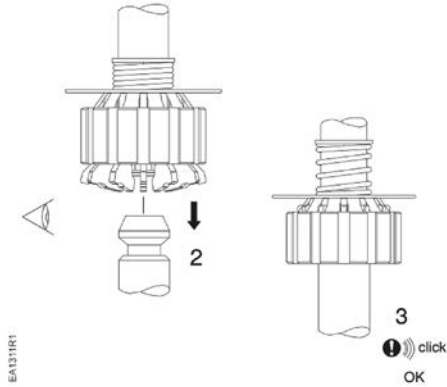

Figure 10.
2. Crank down until you hear the stem connector snap into place. See Figure 10.